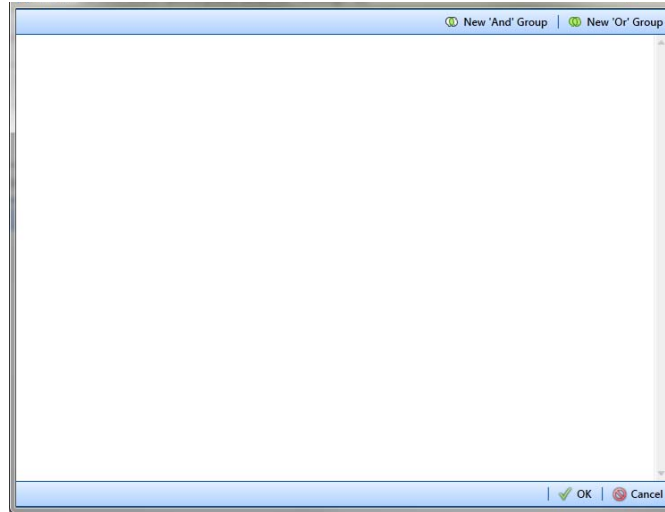

Figure 10-16. Edit Filter
- 8 If you want to set up one or more filters that apply to *all* data items in the export definition, click  **Edit** in the *Filters* group box to open the *Edit Filter* dialog box (Figure 10-16).